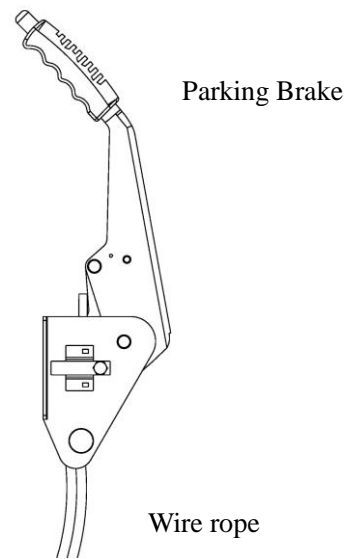

Figure 2-10 Parking brake lever
2.5 Control device of parking brake (Figure 2-10)